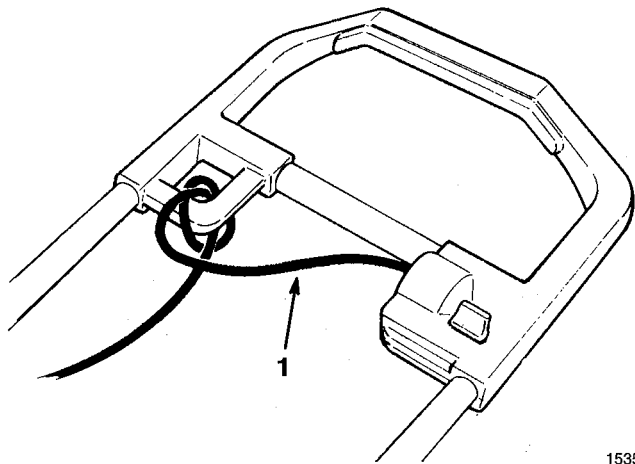

Figure 6
8. To prevent disconnection of snowthrower cord from extension cord during operation, tie extension cord to loop in upper handle before connecting to snowthrower; refer to page 8, Figure 6 for proper procedures.
1. Before connecting the extension cord to the snowthrower, tie the extension cord to the loop in the handle as shown in Figure 6. This helps to prevent the extension cord from pulling out of the snowthrower during operation.